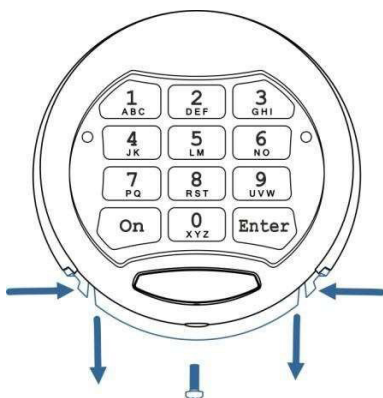

Fig. 5.1
- The pullout battery box (5) is located behind the casing of the keypad (1).
- Remove the screw on the underside of the battery box (see Fig 5.1).
- Squeeze the sides and pull the battery box down (see Fig 5.1)